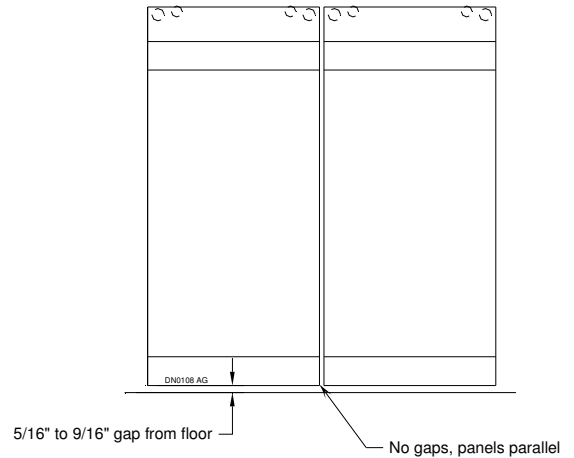

Figure 14
1. Door height from finished floor is adjustable from 5/16 inch to 9/16 inch (See Figure 14).